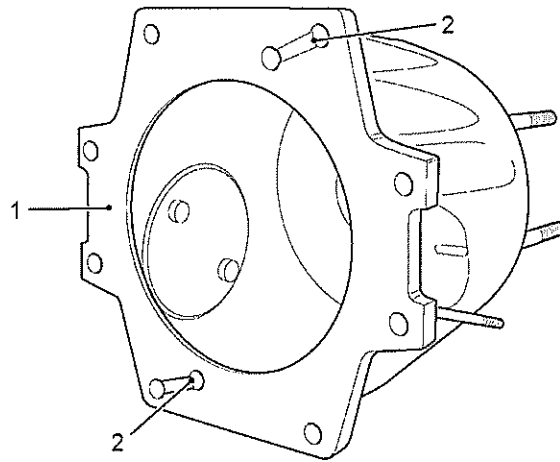

Fig 25 Handbrake flange
75 Apply surface sealant Loctite 574 to sealing surface of handbrake flange (see Fig 25 (1)) and refit handbrake flange.